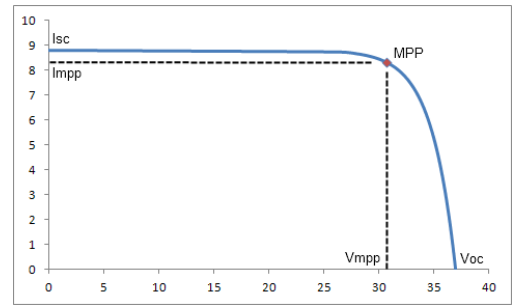

fig. 5 – 3
- Figure 5 - 4 shows the “welcome screen”.
- In the photovoltaic simulation the parameters for the photovoltaic simulation can be configured. The application also renders the photovoltaic curve calculated with the entered values. It reads the voltage and current measurements of the power supply and displays these in the graph. Figure 5 - 5 shows the “Photovoltaic Simulation” application.